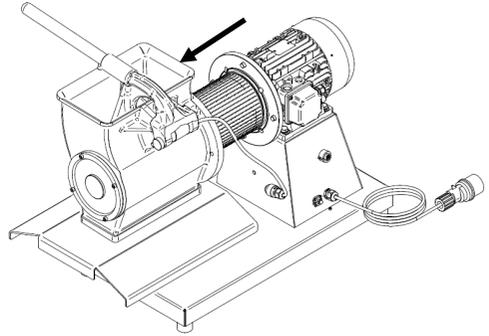

Fig. 7.2.2
- Pull out the spout (fig 7.2.2) with caution, as the spout assembly weights 16 kg